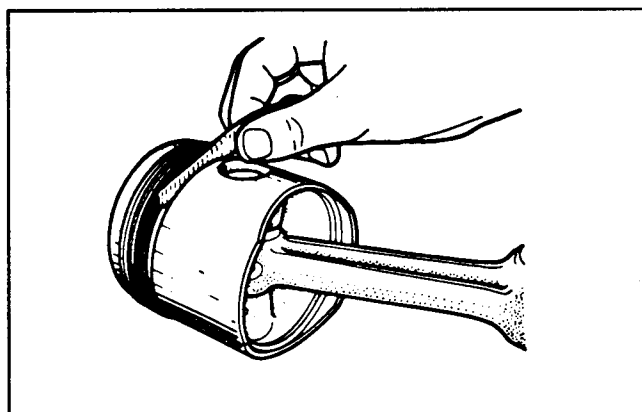

Figure 95
9. Use a thickness gauge to check the piston ring side clearance (Fig. 95).